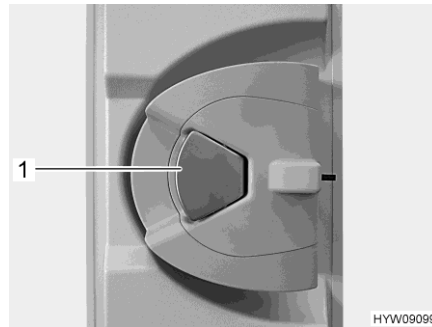

Fig. 32 Door lock (living area door, inside)
- When the door lock is locked: Pull once at the door handle (Fig. 32,1). The door is unlocked.
- Pull on the door handle (Fig. 32,1). The door is open.
- Push the door handle (Fig. 32,1).